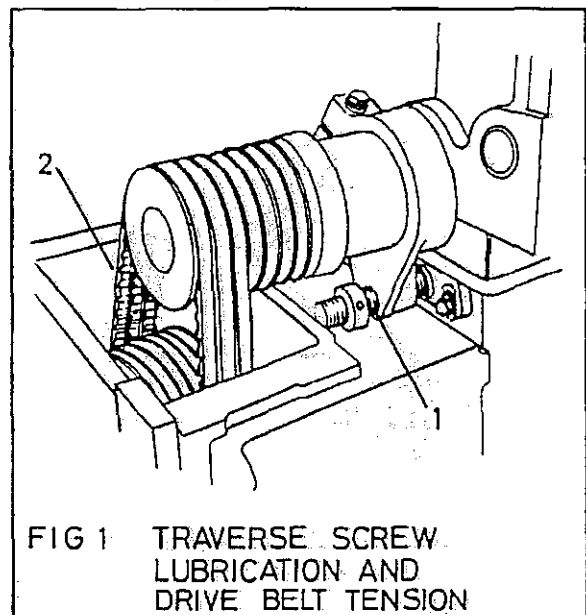

FIG 1 TRAVERSE SCREW LUBRICATION AND DRIVE BELT TENSION
Three Monthly (Fig 1)
- 2) Remove cover to expose spindle pulley and belts (Fig 1).
- 3) Slacken off motor mounting plate bolts (1).
- 4) Tension belt by slackening the top locknut (2) and turning the bottom locknut (3) in an anti-clockwise direction.
- 5) When tensioned lock up both nuts (2 and 3) and motor mounting bolts (1). Refit cover and engage power